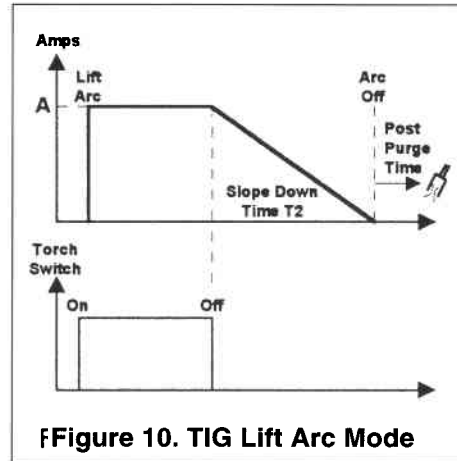

Figure 10. TIG Lift Arc Mode
9. TIG Welding with 2 Stroke Torch Switch Using Lift Arc, see Figure 10.